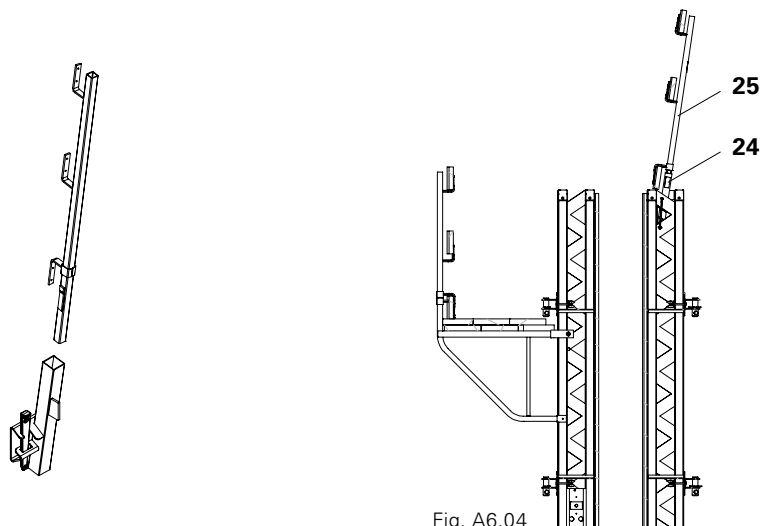

Fig. A6.04
1. Insert Handrail Post Holder VARIO (24) into the lattice of the girder and secure by means of a wedge.
2. Insert Guardrail Post HSGP-2. (Fig. A6.04)